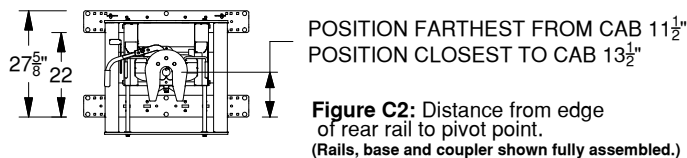

Figure C2: Distance from edge of rear rail to pivot point. (Rails, base and coupler shown fully assembled.)
1. **Mount arms.** Mount the pivot arms using one of the six different positions illustrated in Table C1 and Figure C2. These six positions allow flexibility in coupler height and distance from the cab. Choose a location so that your trailer will be as level as possible and have adequate turning clearance while in the towing position (with the slider in the forward position).